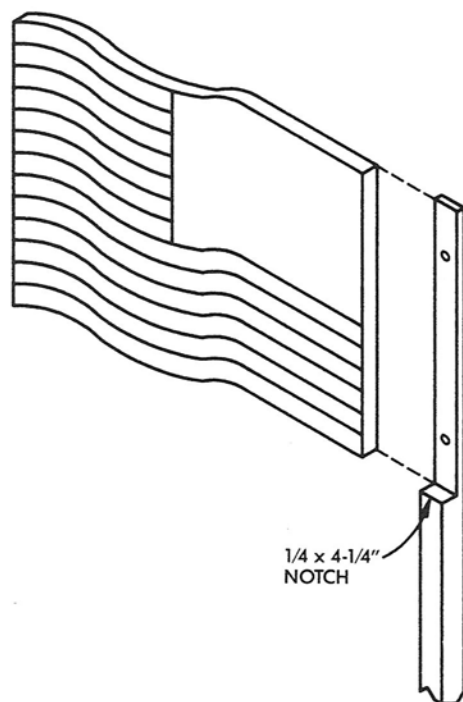

Figure 4-44. Flag and pole detail.
6. Cut out the flag and flag pole. Shape the flag piece to make a $4\frac{1}{4} \times 5\frac{5}{8}$ in. flag with $\frac{3}{8}$ in. on the edge to attach to the pole (Fig. 4-44). Draw an outline of the stars and stripes on the wood so it will be easier to paint them later. Glue/brad the flag on the pole. Then trim the base of the pole to fit into the hole. Do not glue it in place until it is painted.